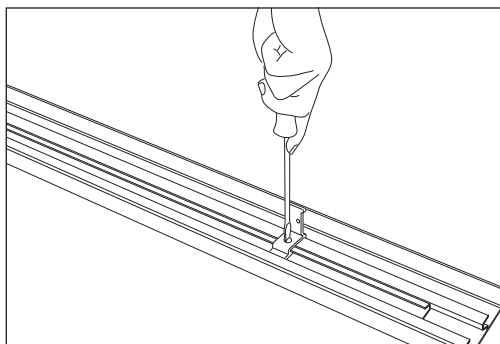

Fig 2 Screw lowest cleat to verge section
- 3 Screw a cleat to verge section to correspond with first slate batten at eaves, but its position must be ascertained and then screw driven home before nailing down (Fig 2).